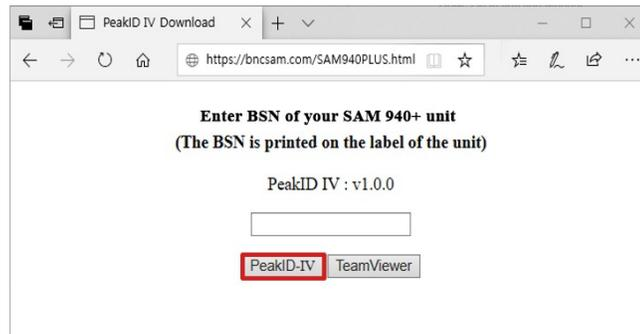

Figure 7.1.2. PeakID Download Page
- Enter the serial number from the label on the detector unit, then click **PeakID IV** (Figure 7.1.2.).